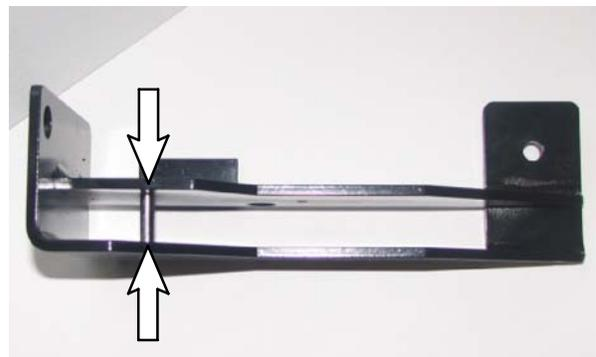

FIG. 7
6. Install the roll pin (6) through the 1/4" hole in one side of the pulley mount (1) and into the 1/4" hole on the other side. Refer to Fig. 7.